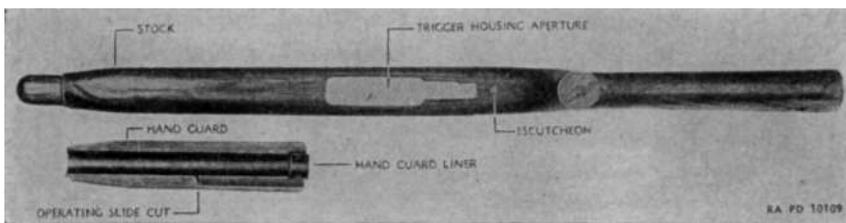

Figure 60. Stock and hand guard — carbine, cal. .30, M1.
(2) Inspect butt plate for deformation, burs, fit, and looseness on stock. Check butt plate screw for looseness. Check threads in stock for stripping.
(3) Inspect recoil plate for looseness in stock, for burs, and for excessive wear and rust. (See fig. 56.) Check recoil plate screw for looseness in escutcheon (fig. 60), burs, and worn threads.
(4) Inspect escutcheon for looseness in stock, burs, or worn threads.